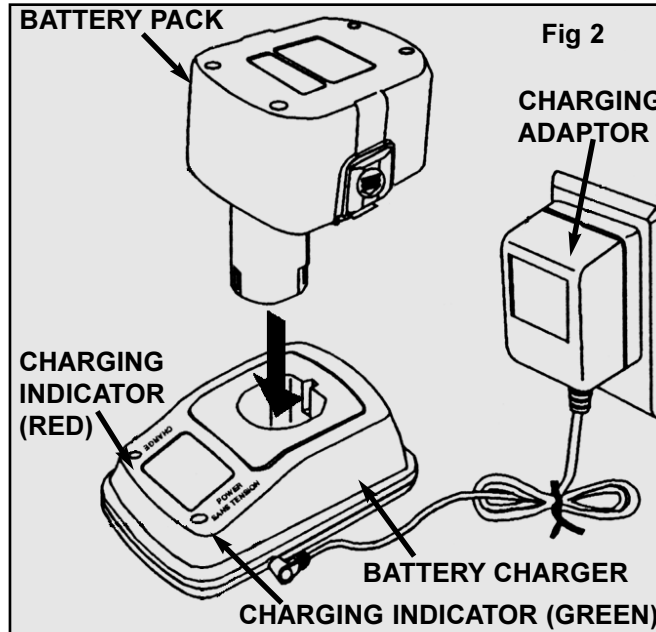

Fig 2
- 3.1.3 Place the battery pack in the charge stand. Align the raised rib on battery pack with groove in the charging stand. (fig 2)